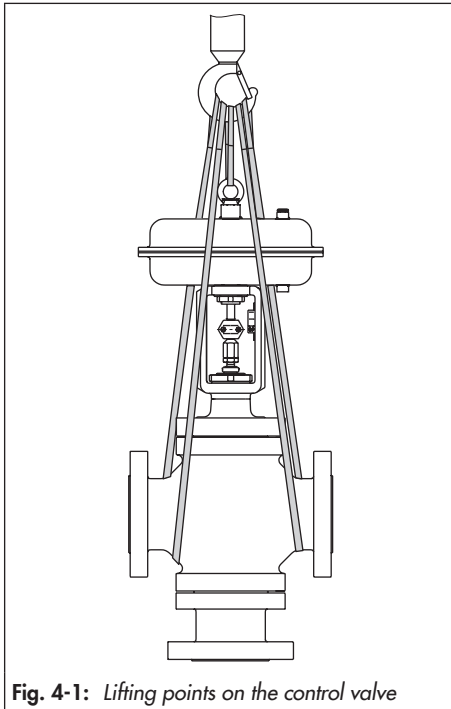

Fig. 4-1: Lifting points on the control valve
- Use a hook with safety latch (see Fig. 4-1) to secure the slings from slipping off the hook during lifting and transporting.
1. Attach one sling to each flange of the body and to the rigging equipment (e.g. hook) of the crane or forklift (see Fig. 4-1).